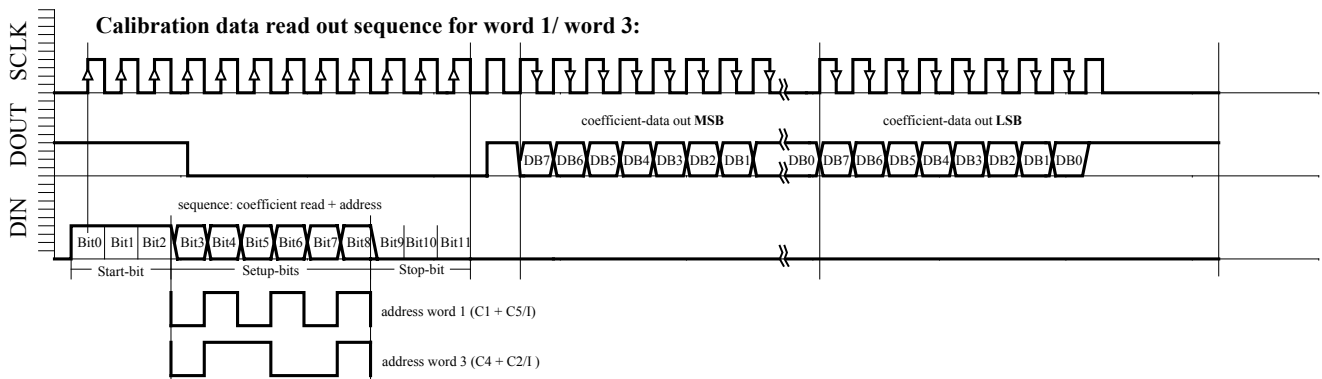

Figure 4c: W1, W3 reading sequence
- Calibration data read-out sequence for word 1 and word 3 (Figure 4c)